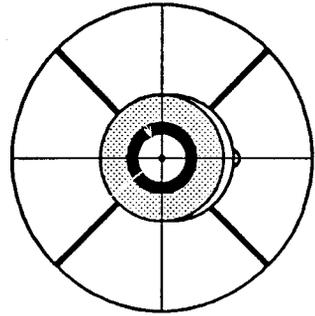

Fig.20
- 5) As shown in the fig.(d), when the center of the 50.8 adapter is seen at the left, check the movement of it by screwing the adjusting screw A and if necessary with the other screws. By doing so, place the mark and the center of the 50.8 adapter on the horizontal line as shown in the fig.20.
Once more be certain that the cross point, the mark on the diagonal mirror, and the center of the 50.8 adapter are positioned on a concentric point. If they are not on it, adjust the screws to position them as seen in the fig.20. Then, the optical alignment has been finished.